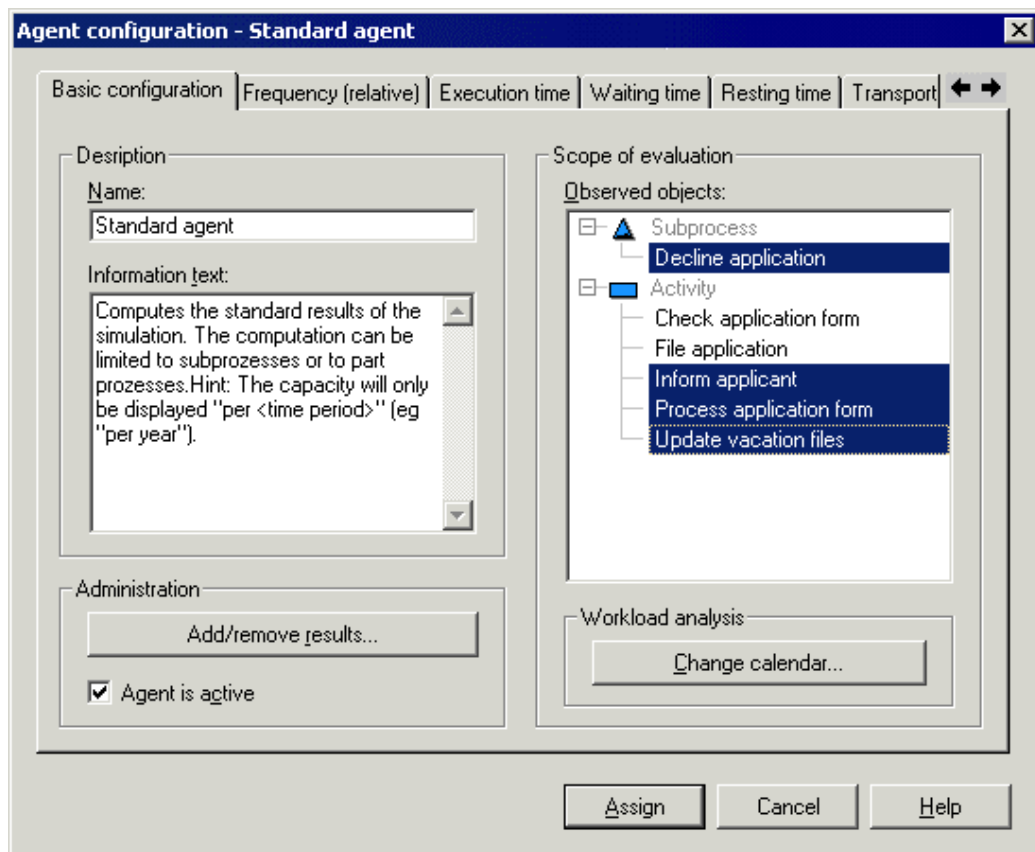

Figure 342: Configuring agents (example)
3. Click on the **"New"** button. The window "Agent configuration - <Name of Agent>" (see fig. 342), in which you can assign tasks to the new agent, will now be displayed.
"Settings"	opens the window "Agent configuration - <Name of Agent>" (see fig. 342). You may then change some of the existing settings or add new tasks for the agent to carry out.
An agent's behaviour is designed in the window "Agent Configuration - <Agent Name>" (see fig. 342). The window contains a tab for **"Basic configuration"** (see chap. 4.8.3.1, p. 399) and can contain tabs for the Evaluation Results (see chap. 4.8.4, p. 402) the agent is to calculate.
It is possible to specify which modelling objects the agent should take into account when calculating results and for which periods of time the agent is to calculate the results in the "Basic configuration" (see fig. 342) tab.
Define the results the agent is to animate in the "Animation" (see chap. 4.8.5.2, p. 414) tab in the "Agent configuration" (see fig. 342) window.
Within the "Number of changes in responsibility" (see chap. 4.8.5.3, p. 414) tab, within the window "Agent configuration" (see fig. 342) you must define whether the changes of responsibility are to be calculated for performers, resources or for other classes of your application library.
Specify whether the agent should calculate the relative or the absolute frequency of occurrence in the "Frequency" (see chap. 4.8.5.4, p. 415) tab in the window "Agent Configuration" (see fig. 342). You can also extend the settings concerning result calculation there.